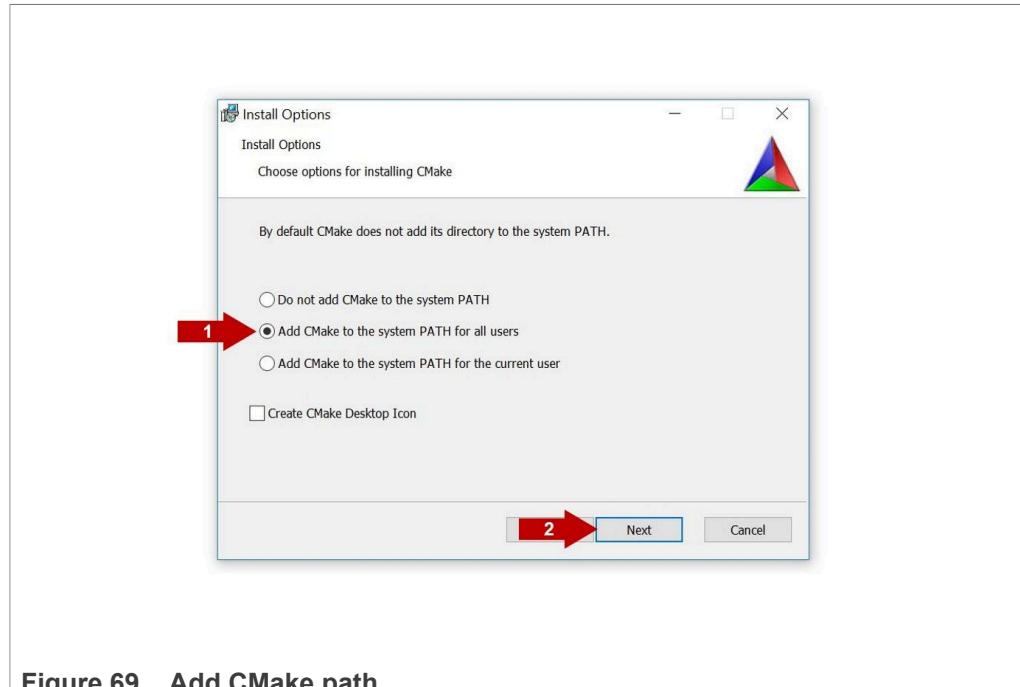

Figure 69. Add CMake path
6. As part of the CMake setup, (1) **Add Cmake to the system PATH for all users** and (2) click **Next** as shown in Figure 69: